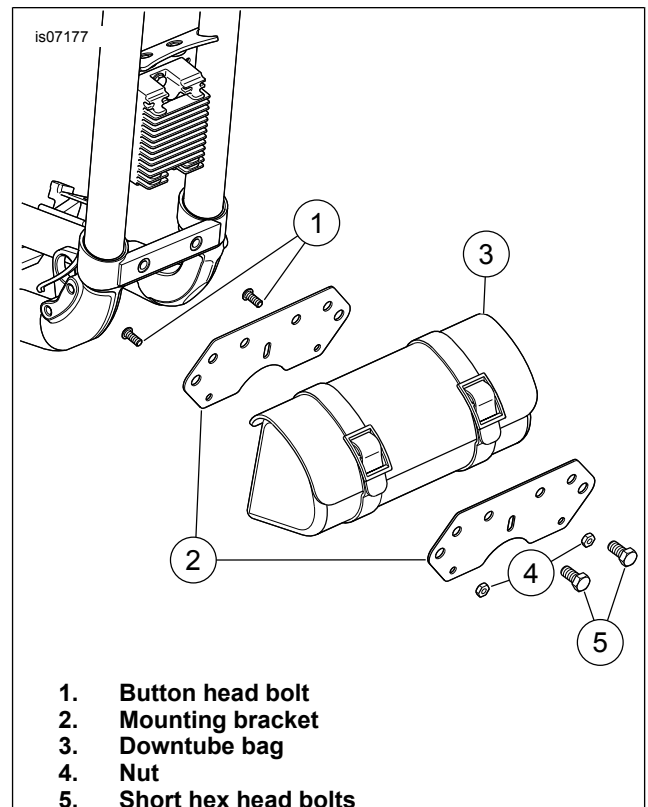

Figure 2. Downtube Bag Fitment, Sportster Models
4. See Figure 2. Place one mounting bracket (2) against the back of the downtube bag (3). Align the holes in the mounting bracket with the holes in the bag. Insert two button head bolts (1) through lower mounting holes.
6. Install nuts (4) over button head bolts on the inside of the bag. Tighten nuts to 6.8 N·m (60 in-lbs).
7. From inside the bag, insert short hex head bolts (5) through the upper mounting holes.